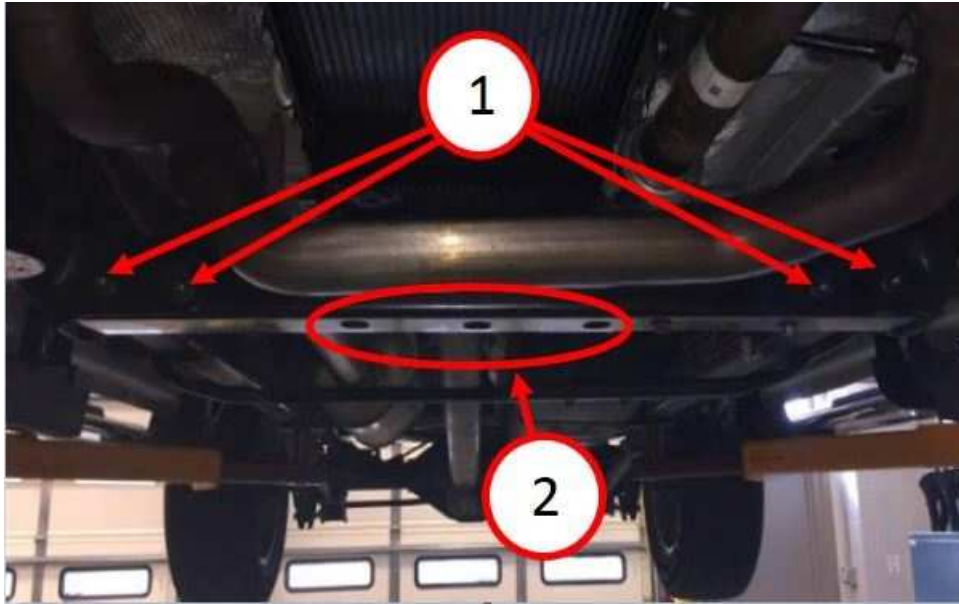
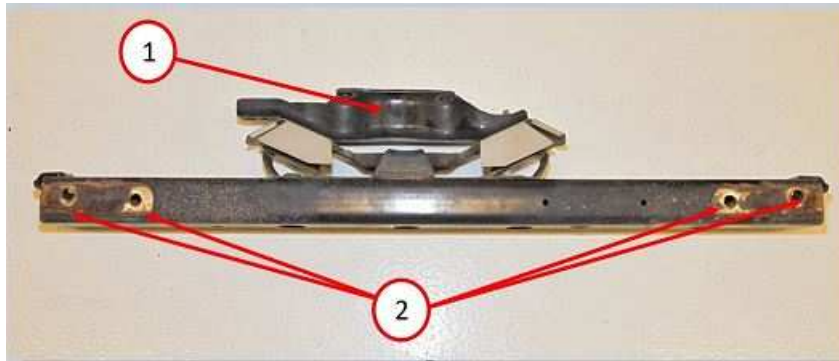

Fig. 3
Fig. 4
4. Loosen the three nuts securing the transmission mount to the cross member (Fig. 3) . Place screw-jack under transfer case to support driveline. Remove the four nuts and bolts (Fig. 4) attaching the crossmember to frame and remove the crossmember.